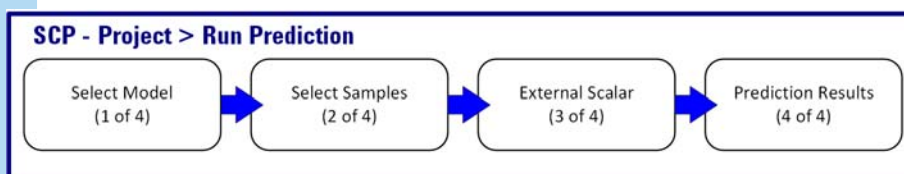

Figure 178 Flow chart of the Run Prediction within SCP
The **Run Prediction** wizard has four (4) steps that are identical to the same four steps used by **Run Prediction from file** used by MPP. A flow chart of Run Prediction from within SCP is shown in Figure 178.